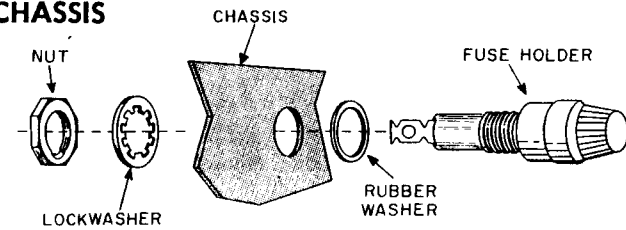

FIGURE 4. FUSE HOLDER MOUNTING
- ☒ Fuse holder. Position with the terminals as shown. Mount as shown in Figure 4.